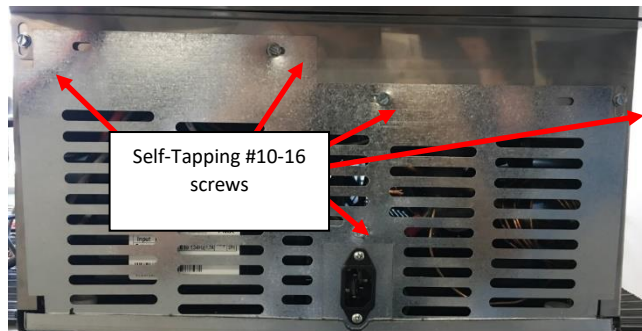

Figure L31: Rear Bottom Panel installed.
28. Secure the Rear Bottom Panel in place using five (5) Self-Tapping #10-16 Screws into the slots. Use screwdriver with 5/16" Hex Drive to fully insert the Self Tapping #10-16 Screws. See Figure L31.